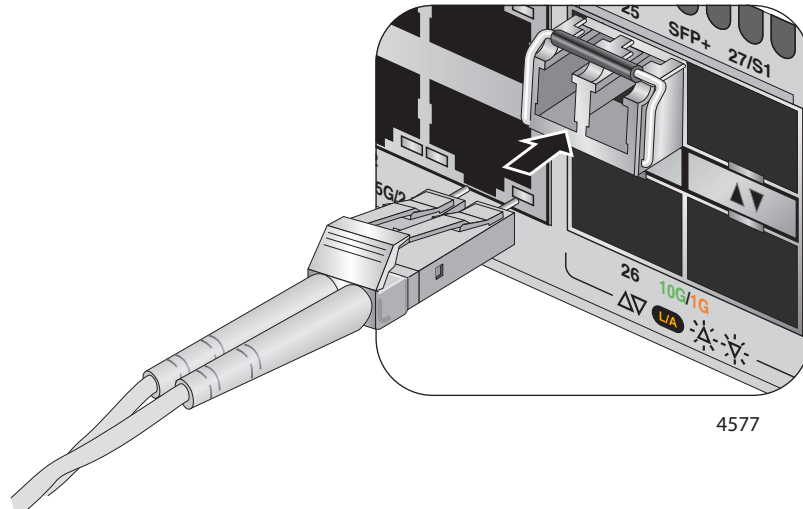

Figure 34. Connecting a Fiber Optic Cable to an SFP or SFP+ Transceiver
6. Connect the fiber optic cable to the transceiver, as shown in Figure 34. The connector on the cable must fit snugly into the port, and the tab must lock the connector into place.